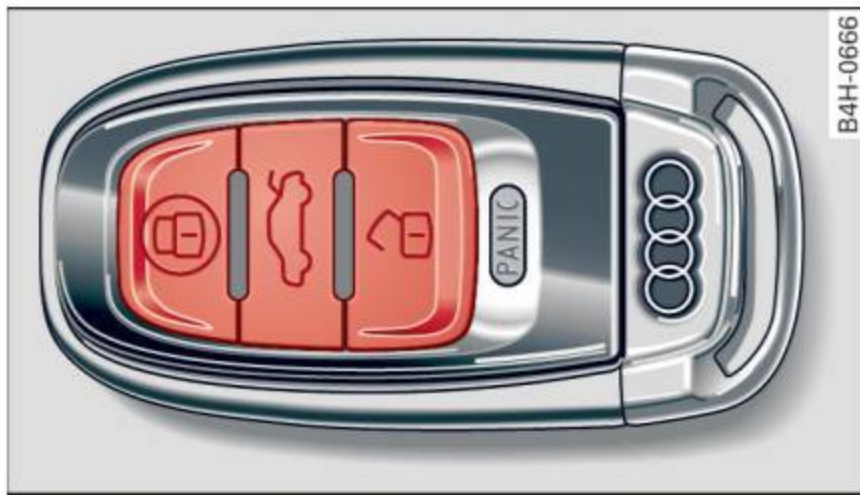

Fig. 22 Remote master key: function buttons
- ▶ Press button  to unlock the vehicle ⇒ *fig. 22*.
- If you select **On**, you can no longer open the luggage compartment using the rear lid handle ⇒ *page 37, fig. 28*. In this case, the rear lid can be opened with the  button on the master key ⇒ *page 34, fig. 22* or with the * button in the driver's door ⇒ *page 37, fig. 27*.